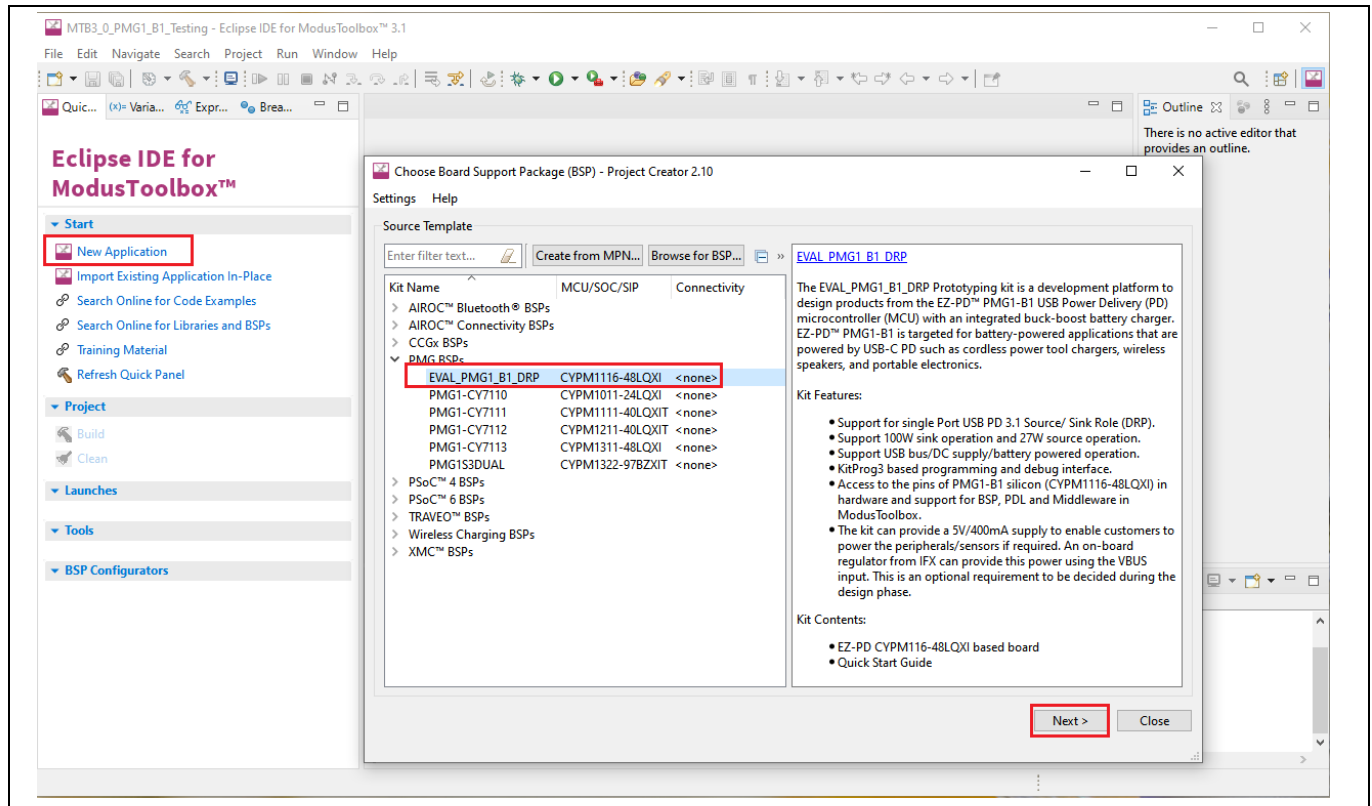

Figure 5 Creating a new application on ModusToolbox™
2. In the Quick Panel, click **New Application** to launch the Project Creator tool as shown in Figure 5.